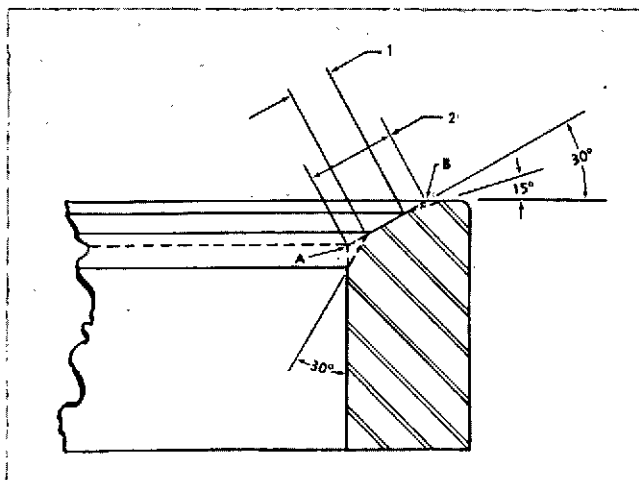

Fig. 2-1-7, N10228. Valve seat insert—cross section
3. If seat area width (1 or 2, Fig. 2-1-7) exceeds 0.125 inch [3.1750 mm] at any point and cannot be narrowed sufficiently, it is unlikely that seat can be successfully reground. See GRIND VALVE SEATS.